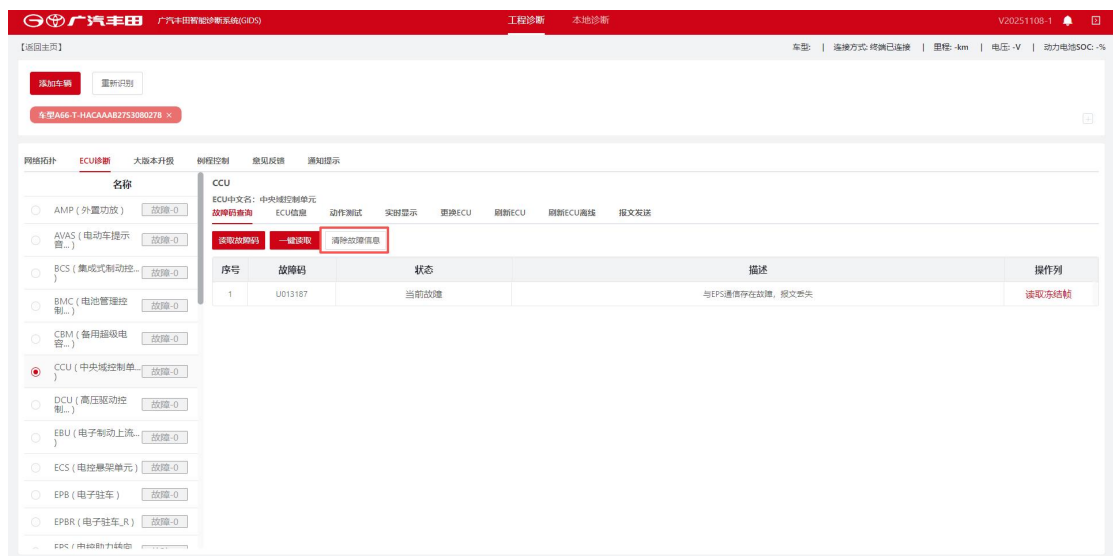

Figure 5-5 Clearing Fault Information
5. Click "Clear Fault Information", and GIDS clears the DTCs of the selected ECU and then re-reads the DTCs of that ECU, as shown in Figure 5-5 Clearing Fault Information.